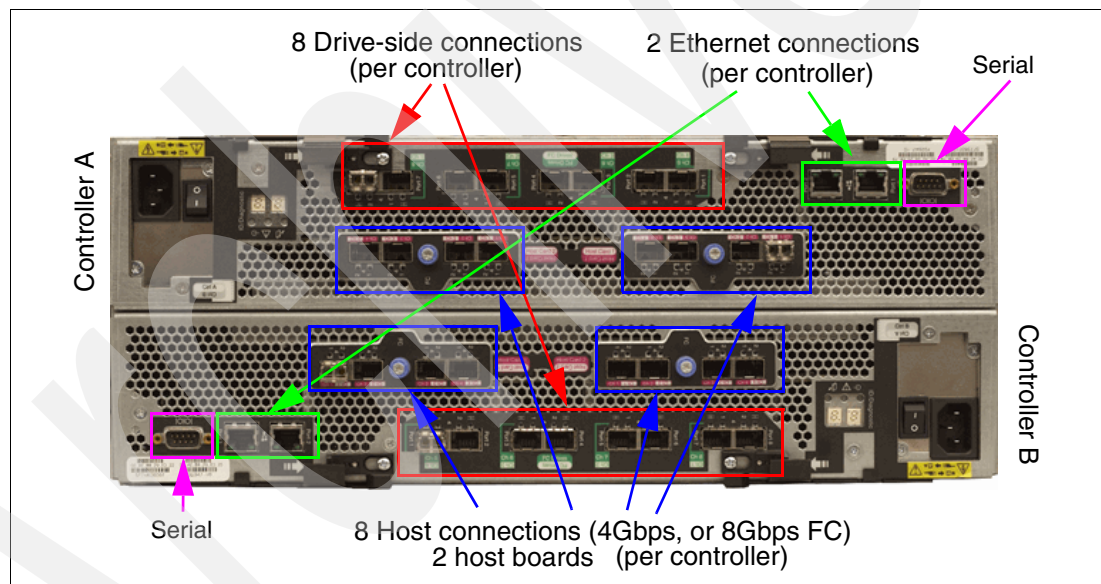
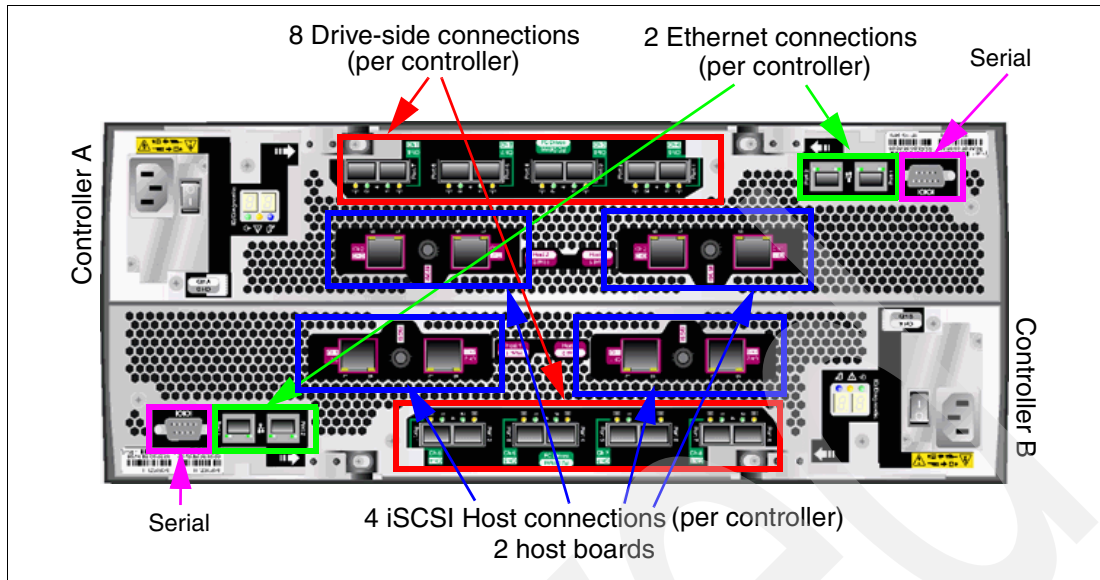

Figure 3-18 Rear view of the DS5300 storage subsystem: FC version
Figure 3-19 Rear view of the DS5300 storage subsystem: iSCSI version
The rear of the DS5000 shows the two controllers stacked in a horizontal fashion. Controller A is located on the top and controller B is located on the bottom. The DS5100 and DS5300 system can have two Host Interface Cards in total. Both controllers are hot-swappable (Figure 3-18 and Figure 3-19 on page 46).
- ▶ Fibre Channel version, which has one or two FC HICs installed per controller (Figure 3-18).
- ▶ iSCSI Version, which has one or two iSCSI HICs installed per controller (Figure 3-19 on page 46).